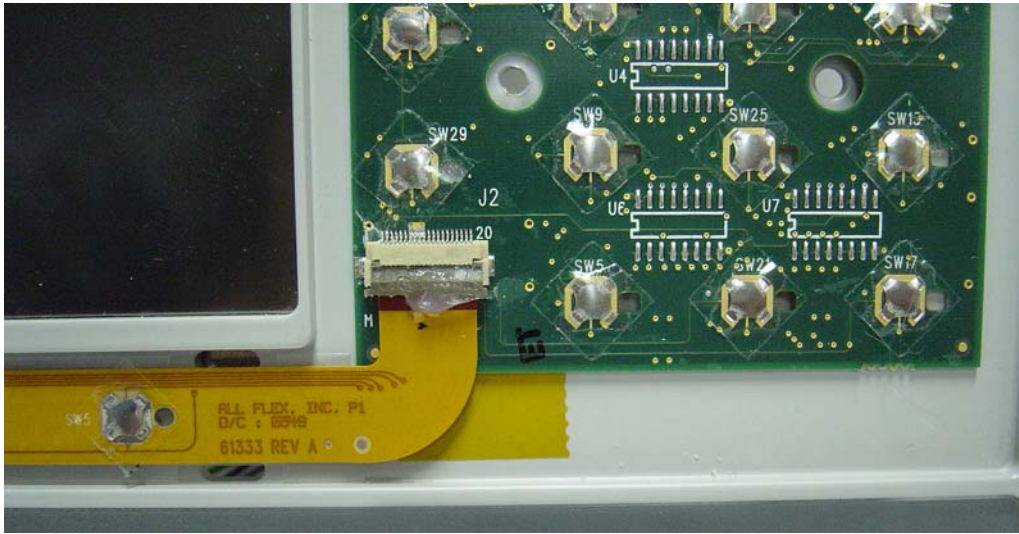

Figure 5-31. Connector J2
5. If replacing the PCB, then disconnect the Mode key flexible switchpad from J2 of the numeric keypad PCB (lower left corner, refer to Figure 5-31) by carefully lifting the locking tab on connector J2 to release the flexible switchpad. This type of connector typically has non-corrosive RTV adhesive on the connector to maintain the connection securely.
1. Place the chassis face up on a static protected work surface. After the metal numeric keypad bezel has been removed, disconnect the Mode key flexible switchpad from J2 of the numeric keypad PCB (lower left corner, refer to Figure 5-31) by carefully lifting the locking tab on connector J2 to release the flexible switchpad. This type of connector typically has non-corrosive RTV adhesive on the connector to maintain the connection securely.